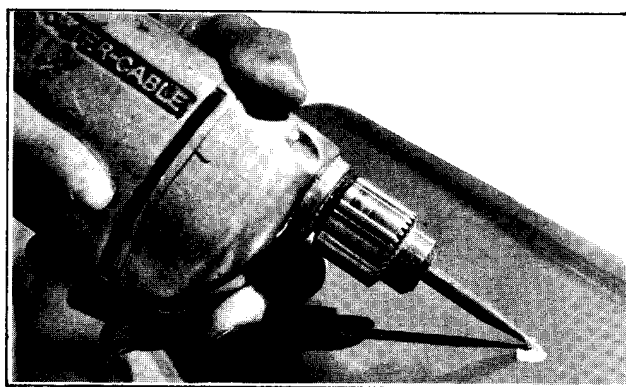

Figure 2-48. Roughing Damaged Area
2. Roughen the bottom and sides of the damaged area, using a power drill with a burr attachment. Feather the edge surrounding the scratch or gouge, being careful not to undercut this edge. See Figure 2-48.